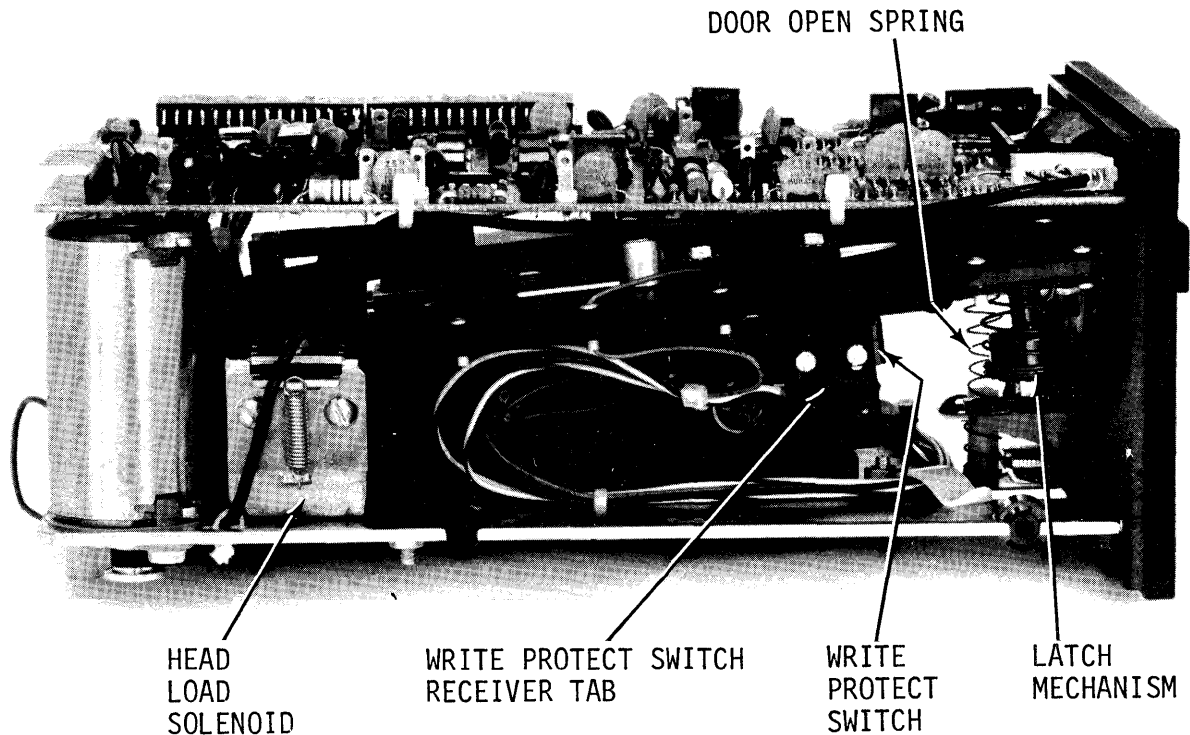

Figure 6-8. Head Load Solenoid, Write Protect Switch, and Latch Mechanism
- a. While holding the receiver tab and the write protect switch, remove the two switch mounting screws (see figure 6-8). When the second screw is removed, the nut plate (on the inward side of the switch) will be freed.